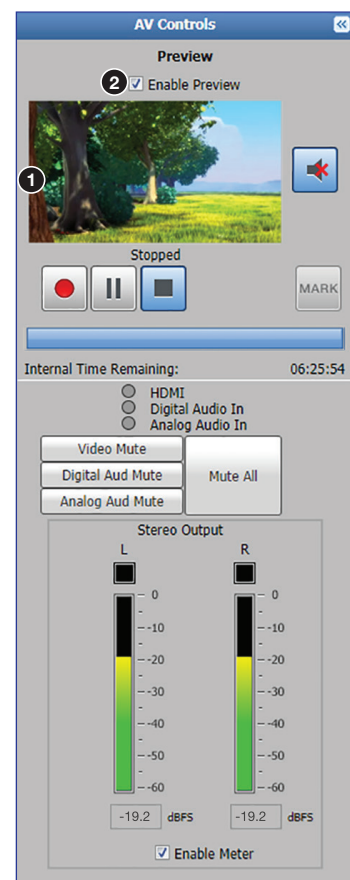

Figure 14. Controls Panel
This area (see figure 14, ❶) provides a small, live stream of the output video to view what is being recorded. To make the embedded web pages faster to refresh, the stream for this live view can be disabled. The recording and output streams continue to be streamed when this preview is disabled. Select (check) the **Enable Preview** checkbox (❷) above the preview window to enable or disable the live feed. The live preview stream is independent of the streaming settings configured on the **Encoding Presets** page.